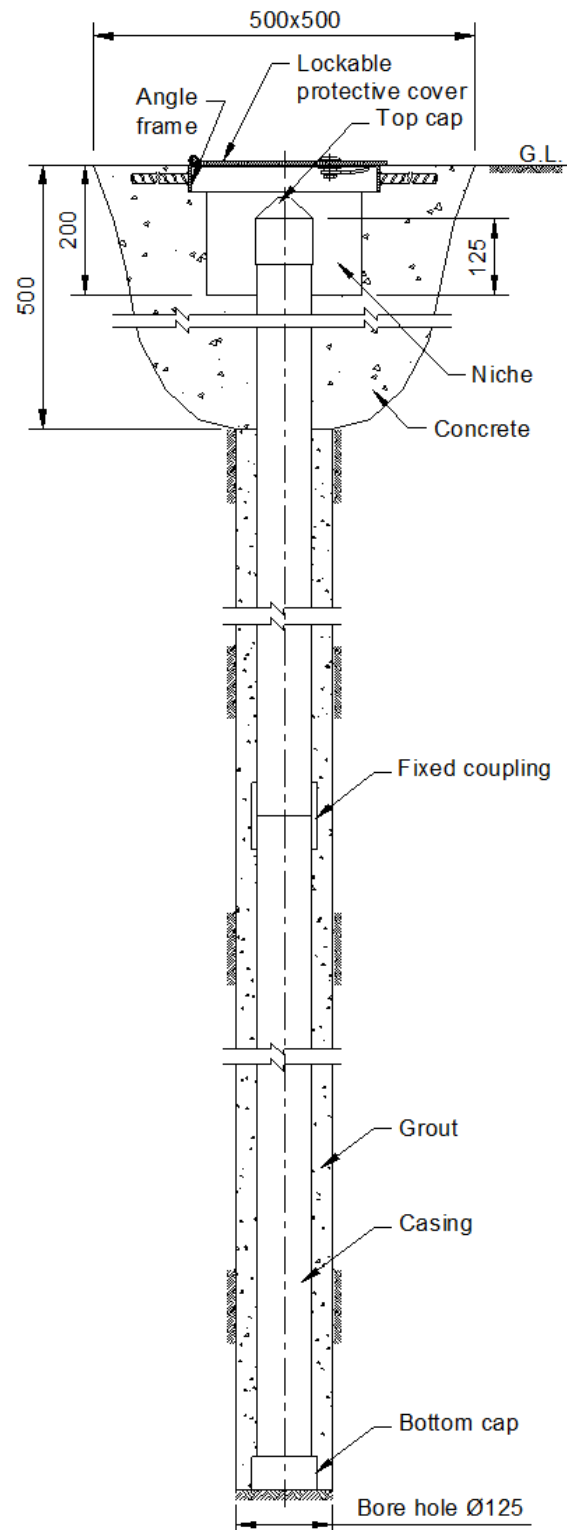

Figure 7-1 Checking of casing
- a. Fix protective cover in concrete platform on top of borehole. Protective covers feature a universal key and dust protection for lock (always put back dust protection after locking to avoid lock jamming). Typical dimensions for concrete platform are given in figure 7-1. These may vary depending on local site conditions.
NOTE: Top of uppermost casing should be 125 mm above base of niche as shown in figure 7-1. The niche is around 200 mm deep. This is necessary for fixing pipe extension jig over casing for taking readings.